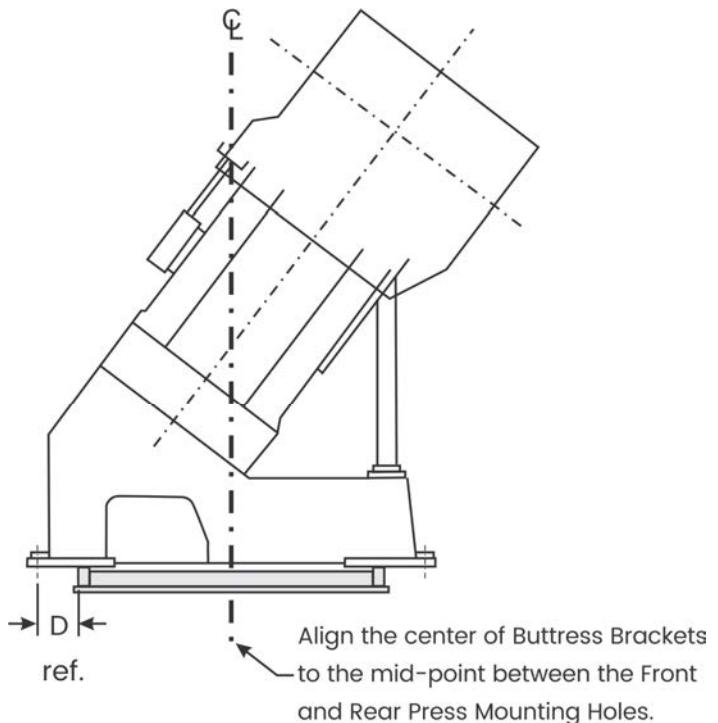

Figure 4
9. Using rollers, overhead crane, etc., position the press over the buttress brackets so that the press mounting holes are centered left-to-right and front-to-back on top of the buttress brackets. See Figure 4 and Table 1 in Appendix for "D" reference dimension.